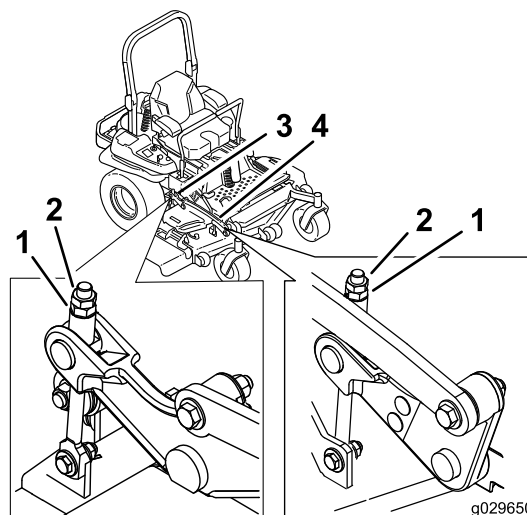

Figure 96
10. If needed, loosen the flanged locknut on the side of the yoke and the jam nut on top. Fine-tune the adjuster screw by turning it to get 7.6 mm (3 inch) height (Figure 96).
16. Fine-tune the adjuster screw by turning it to get 8.3 mm (3-1/4 inches) height (Figure 96).